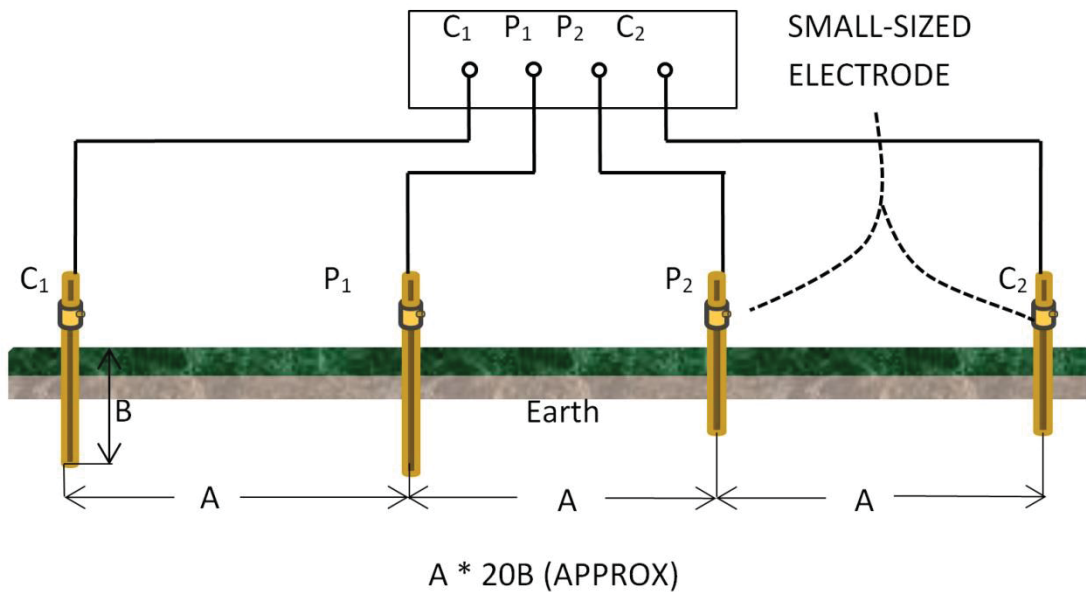

Figure 2 – Four-terminal method of measuring earth resistivity
Figure 2 – The components of the continuous process of ISO 50001 that are an integral part of a much wider picture – reproduced from the IET's Guide to Energy Management
From these basic electrode calculations it can be seen, as detailed in Figure 2, that if the spacing (A) between the actual installed electrode C₁, the temporary C₂ test electrode and the intermediate P₁ and P₂ test electrodes was large compared with the driven depth (B) of the installed electrode C₁ (say, A is more than 20 x B) the general soil resistivity can be calculated from: